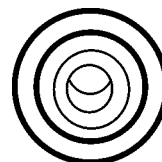

Figure 43. Pre-Heat Indicator Lamp
7. If starting the generator in cold weather the preheat lamp will illuminate (Figure 43), automatically when the Auto-Off/Reset-Manual switch has been placed in the manual position. After the glow plugs have been warmed the pre-heat lamp will go off and the engine start.